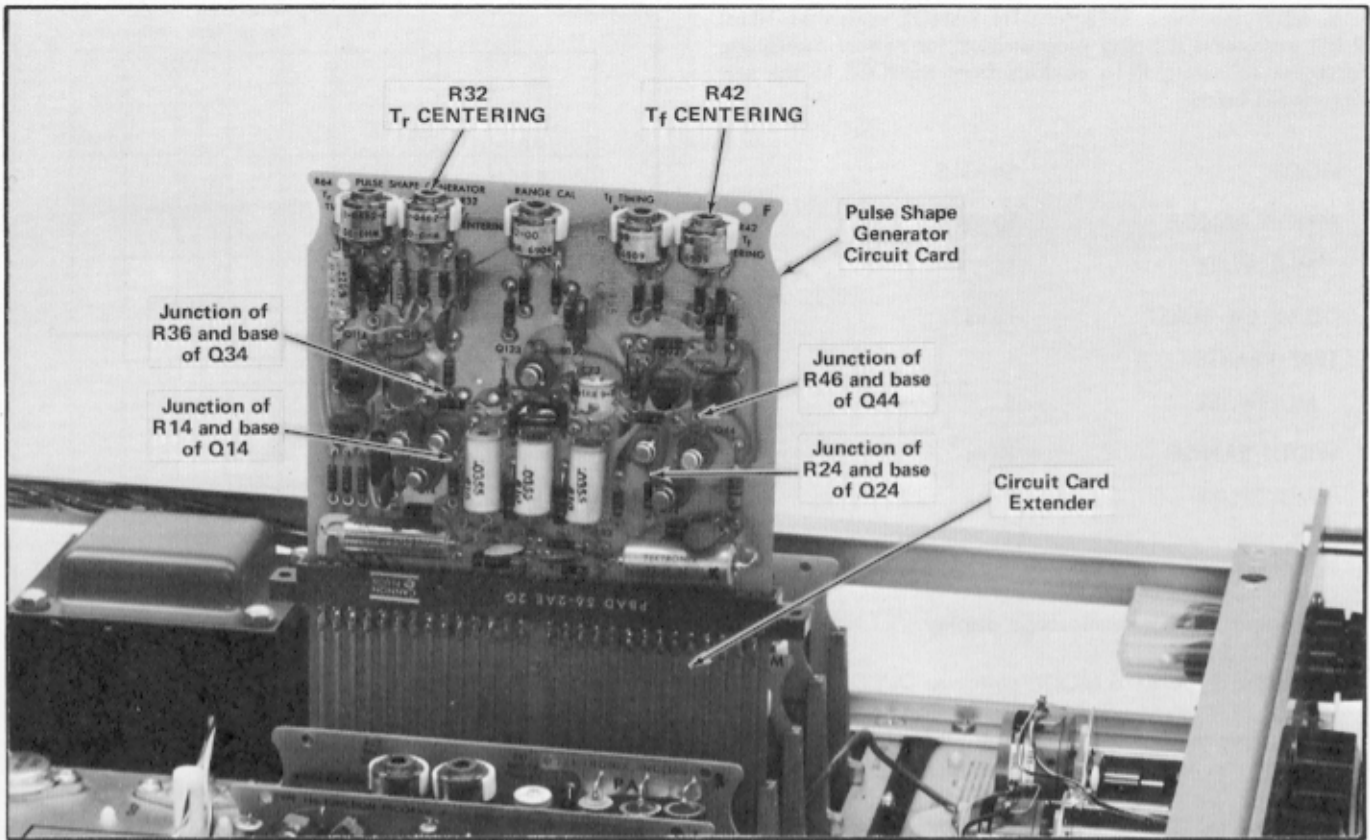

Fig. 6-5. Location of test points and adjustments for setting risetime centering and falltime centering.
- f. Extend the Pulse Shape Generator circuit card on the circuit card extender as shown in Figure 6-5. Turn on the Type R116.
- j. Connect the negative lead of the DC voltmeter to the junction of R14 and the base of Q14 on the extended Pulse Shape Generator circuit card (see Fig. 6-5) and connect the positive lead to the junction of R16 and the base of Q34.
- l. ADJUST—R32, the T_r CENTERING adjustment on the Pulse Shape Generator circuit card (see Fig. 6-5), if the voltage is not correct.
- m. Connect the negative lead of the DC voltmeter to the junction of R24 and the base of Q24 (see Fig. 6-5) and connect the positive lead to the junction of R46 and the base of Q44.
- o. ADJUST—R42, the T_f CENTERING adjustment on the Pulse Shape Generator circuit card (see Fig. 6-5), if the voltage is not correct.
c. Turn R22, the WIDTH TRIG SENS adjustment on the Width Generator circuit card (see Fig. 6-5), fully clockwise, then counterclockwise until one stable pulse appears on the test oscilloscope CRT. Note the position of R22.
e. Reset the Type R116 MODE switch to DOUBLE. Two pulses should appear on the test oscilloscope CRT. If not, adjust R22, the DELAY TRIG SENS adjustment on the Delay Generator circuit card (see Fig. 6-5) to obtain two pulses. (It should be noted that both the Width Generator and Delay Generator circuit cards have R22 adjustments.)